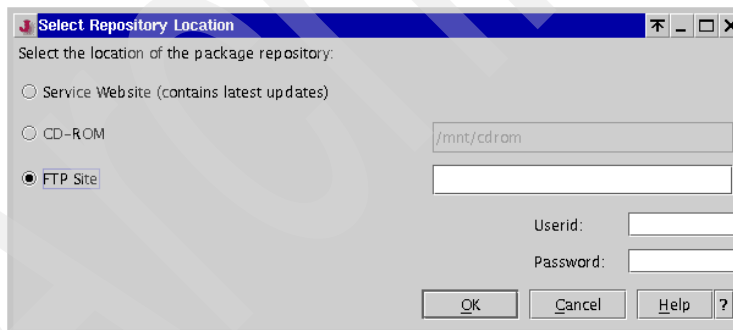

Figure 11-25 Select Repository Location
3. Click **Change Location** if you wish to change from the default Web site Service location. The Select Repository Location window opens as shown in Figure 11-25. Specify the required information depending on the selected location in the window, then click **OK**.